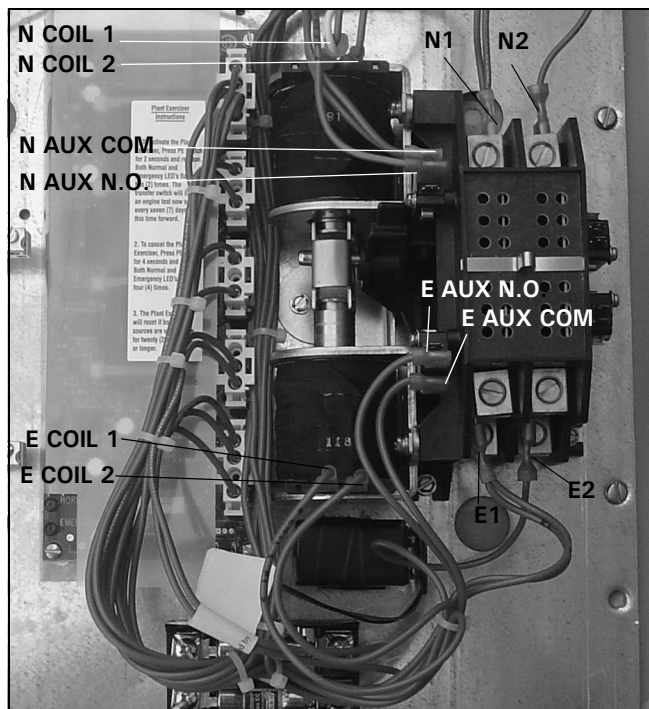

Figure 46. Wires to Disconnect from the Contactor.
- Step 5:** Note their location then disconnect the twelve (12) red wires from the contactor (see Figure 46).